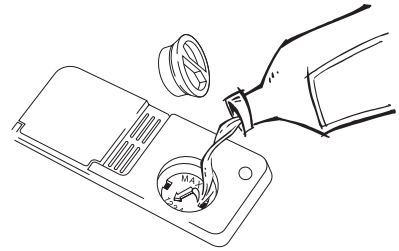

Fig. 2
- Unscrew and remove the container cap in the inner door (see Fig. 2).